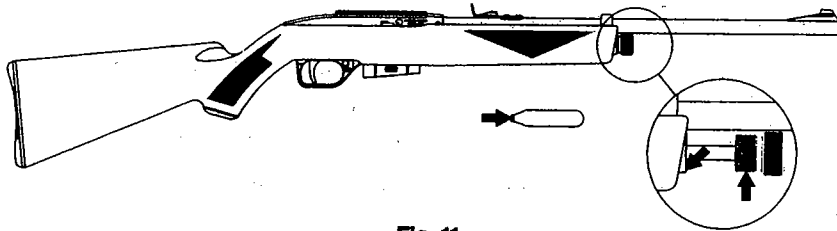

Fig. 11
- Your air rifle will work best if you oil it every 750 shots. Put 2 or 3 drops of Crosman Pellgunoil® (Available for order through the Crosman Accessories Catalog) on the threads of the piercing tube cap. A drop of oil on the end of every 25th CO₂ Cylinder will lubricate the piercing assembly. (Fig. 11)
- A little oil on the barrel helps prevent rust. Pellgunoil® is best, but any light household oil is better than none. Don't over-oil. This can cause damage to your air rifle. (Fig. 11)